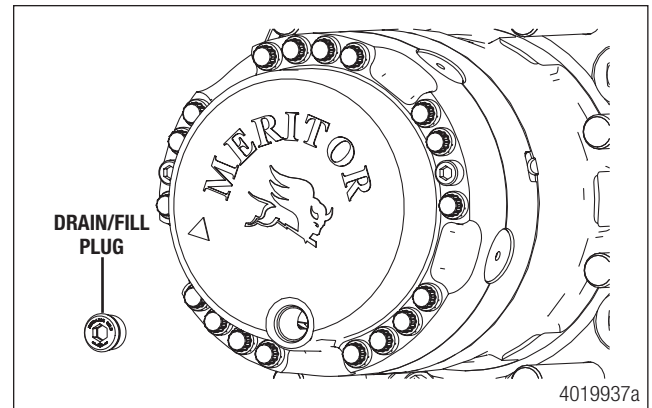

Figure 6
- a. Rotate the wheel end so the drain/fill plug is at the 6 o'clock position. Remove the drain/fill plug and drain the lubricant into a container. Clean the drain plug of debris and reinstall it in the wheel end. Figure 6.